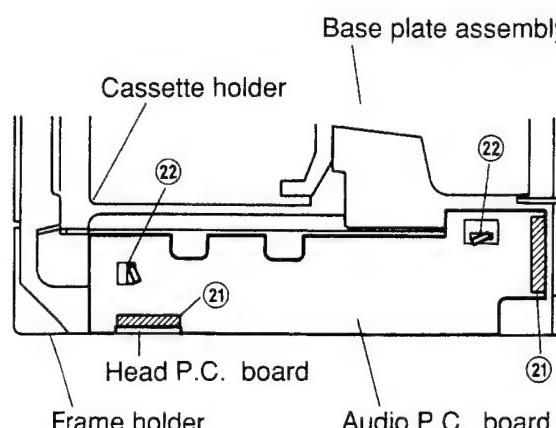

Figure 16
- (1) Remove two solder ② and remove the parallel wire (7P) and the head P.C. board as shown in Figure 16.
- (2) Adjust the two claws ② to the rectangular holes on the P.C. board and remove the P.C. board as shown in Figure 16.
- (3) After replacement, mount the new P.C. board following the removal steps in the reverse order.